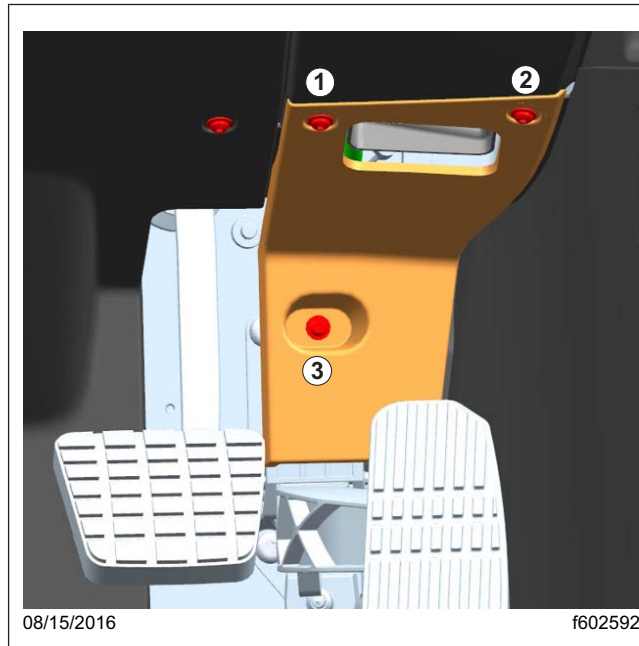

Fig. 1, Throttle Panel Removal
3. Remove the three screws that attach the dash cover throttle to the dash and accelerator pedal assembly and remove the panel as shown in **Fig. 1**. For additional installation instructions, see **Group 60** in the *New Cascadia Workshop Manual*.